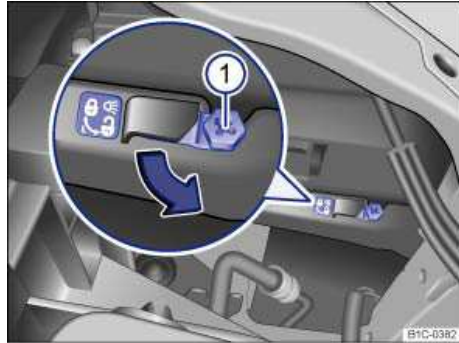
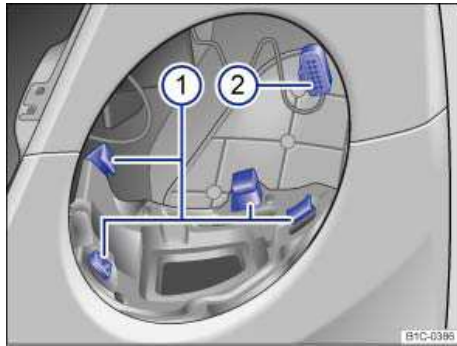

Fig. 168 In the engine compartment: Release lever for the left headlight.
Fig. 171 Anchors 1 and connector plug 2 of the left headlight assembly.
3.	Release the headlight housing. Use the Phillips screwdriver from the vehicle tool kit to turn the release lever ⇒ fig. 168 (1).
2.	Connect the headlight assembly connector plug ⇒ fig. 171 (2).
3.	Slide the four headlight assembly anchors (1) into the four slots in the headlight opening.
4.	Secure the headlight assembly. Use the Phillips screwdriver from the vehicle tool kit to turn the release lever ⇒ fig. 168 (1).